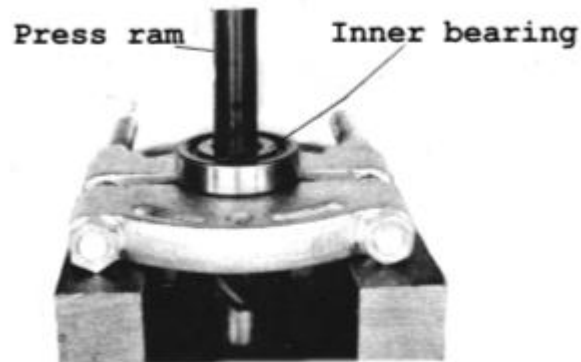

Fig 51
- * Press the inner bearing from the pinion assembly (Fig. 51) on the next page.